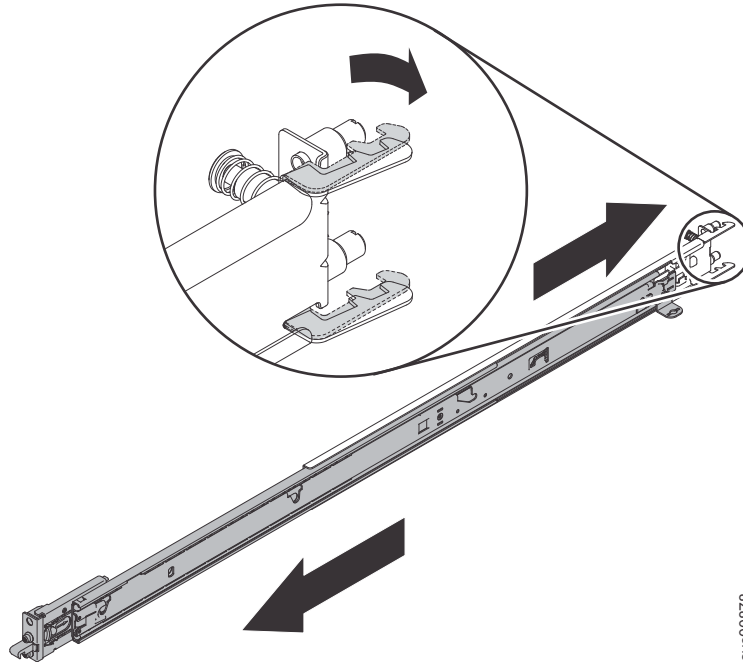

Figure 21. Opening the rear slide-rail hooks
2. Open the rear-slide-rail hooks, as shown in Figure 21 on page 21.